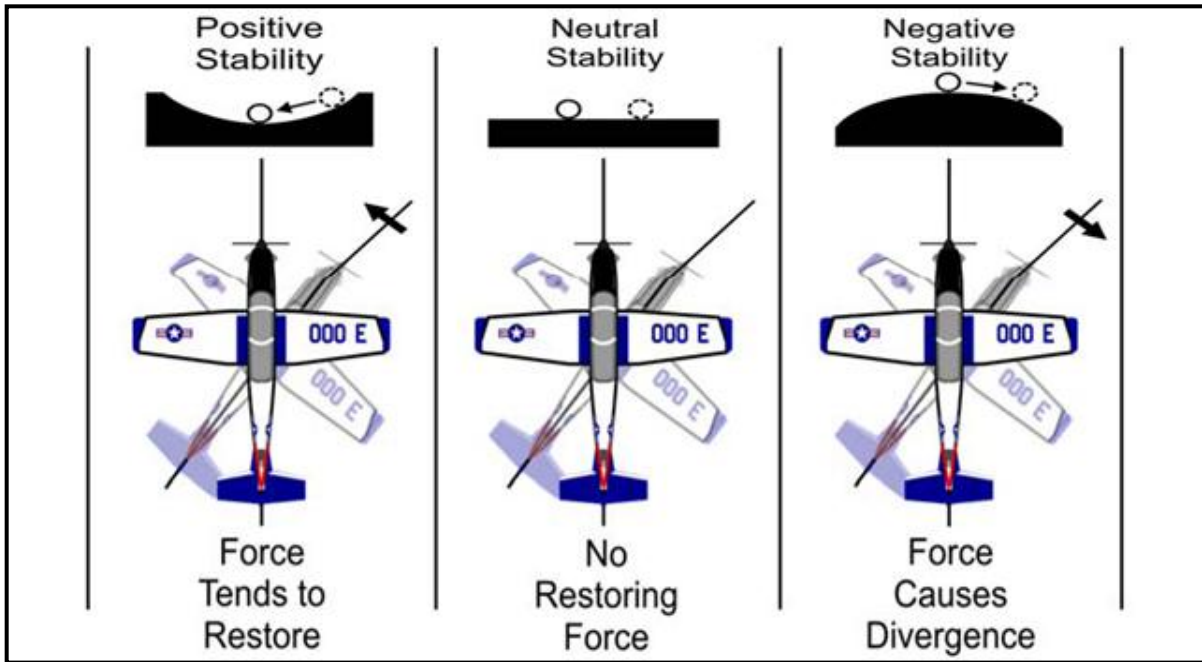

Figure A-5 Static Directional Stability
**STATIC DIRECTIONAL STABILITY:** Essentially the weather cocking tendency of the airplane or the initial tendency of an airplane to return to steady-state flight after a disturbance about an axis. Directional Stability can be positive, neutral, or negative (Figure A-5).